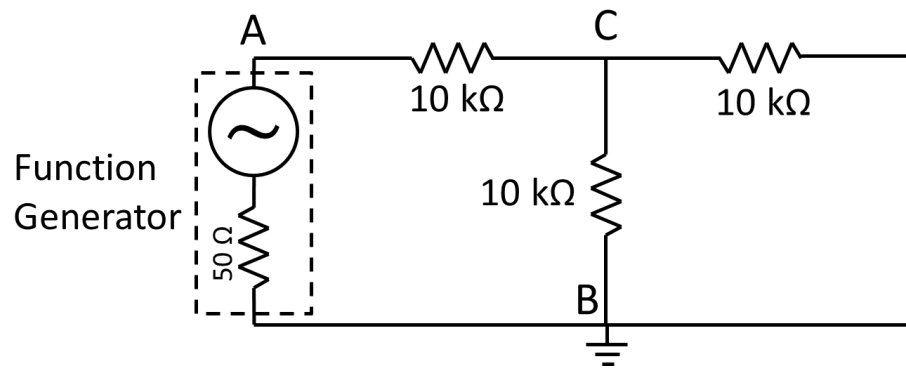

Figure 5: Function Generator with 3 Resistors Network
2.1 Connect one of the function generators to the breadboard using a BNC cable with three $10\text{ k}\Omega$ resistors, as shown in Figure 5. Note that the generator has a $50\text{ }\Omega$ resistance. Set the function generator at approximately 400 Hz with a sine wave signal with an amplitude of 1.75 V. Verify the values using the oscilloscope. If you chose to use the oscilloscope probe, be sure that both the probe and the channel menu option are set to 1X, and that you connect the alligator clip to the reference node.